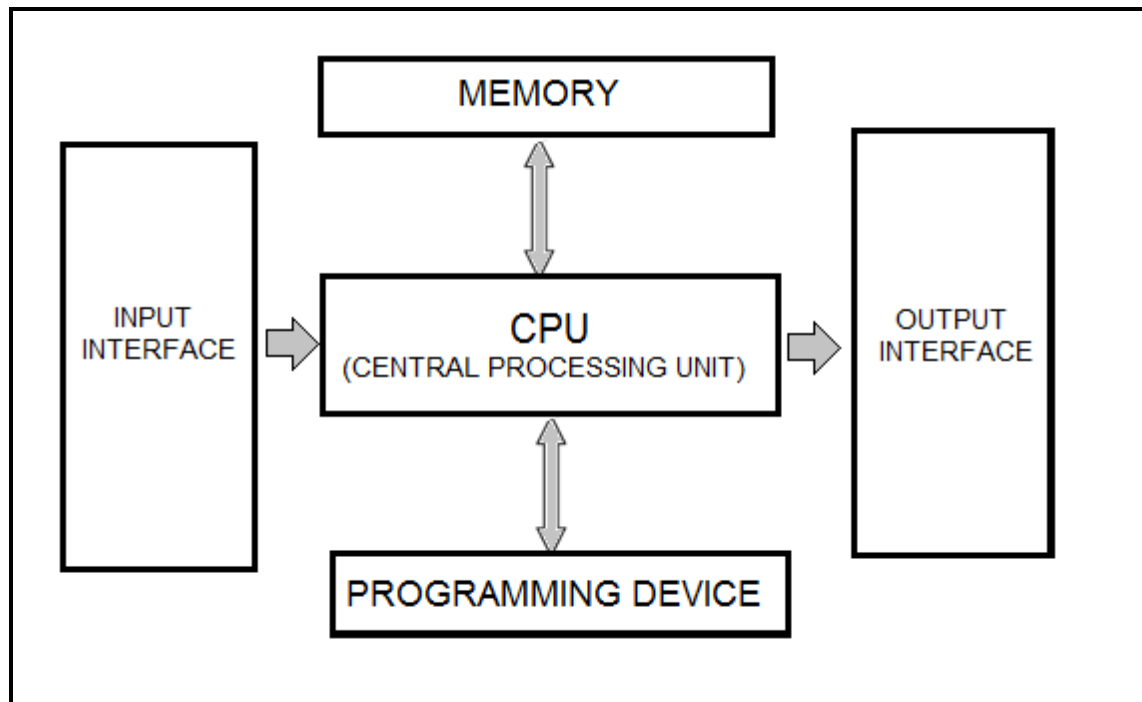

FIGURE 6.1: PLC SYSTEM
6.1 FIGURE 6.1 represents the block diagram of a PLC system.